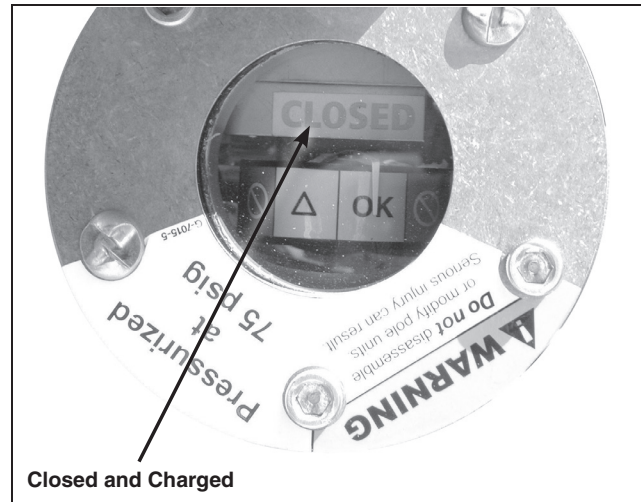

Figure 19. Check that the indicator is in the Closed and Charged position.
STEP 10. Check that the pole-unit position indicator is in the **Closed and Charged** position. See Figure 19. If the indicator still shows an **Open and Discharged** position, repeat Steps 7 through 9.